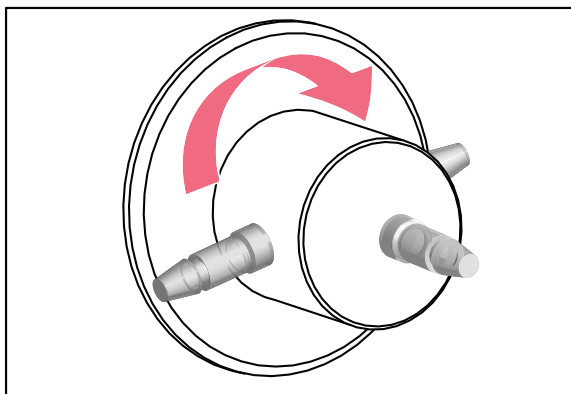

Fig. 1-2: Connect Calibration Plug to O₂ Sensor
5. Carefully screw the calibration plug onto the O₂ sensor (finger tighten only), (see Fig. 1-2 on p. 14).